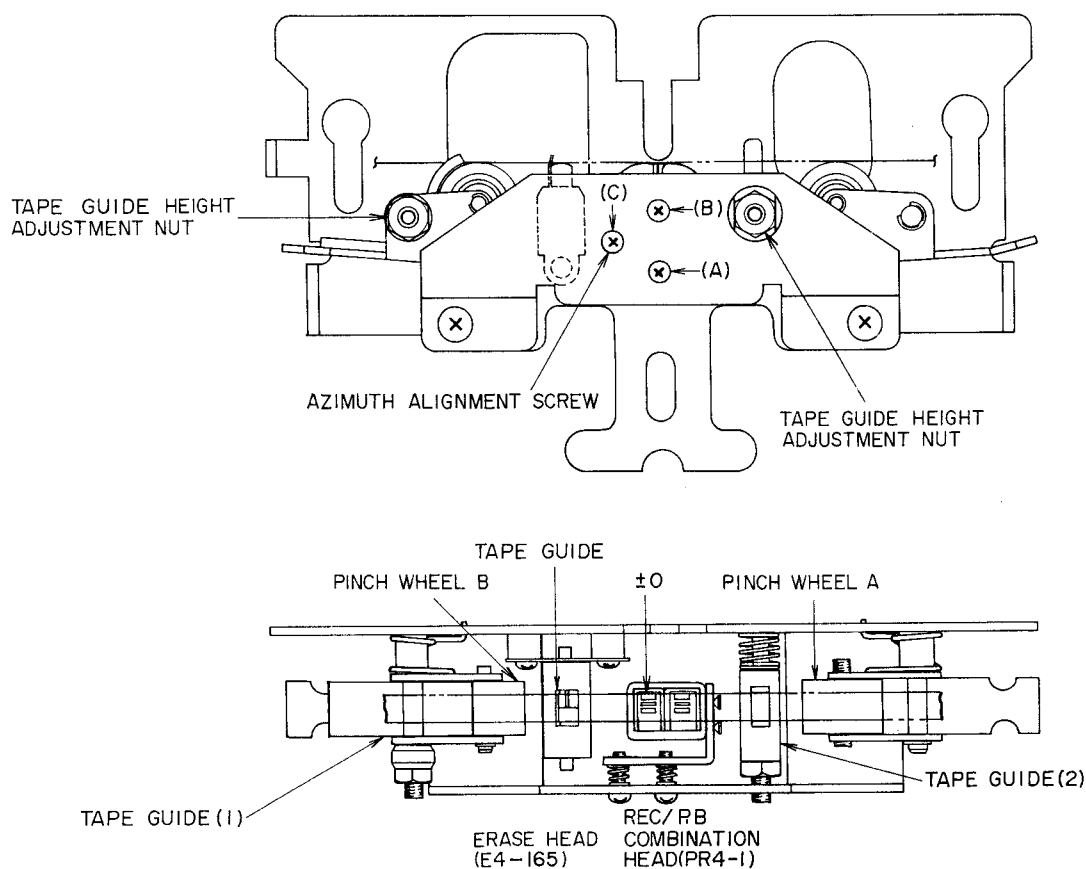

Fig. 6
- 2) At playback mode, using the erase head tape guide as standard for height, as shown in Fig. 6, adjust the height adjustment nuts for proper Tape guide (1) and Tape Guide (2) height and so that the tape runs smoothly and does not catch on the tape guides.
- 1) Playback a 10 kHz pre-recorded cassette azimuth alignment test tape and adjust screw (C) to obtain maximum output on both channels.
- 4) Set Monitor Switch to TAPE position and adjust screw (C) shown in Fig. 6 to obtain maximum output on both channels.